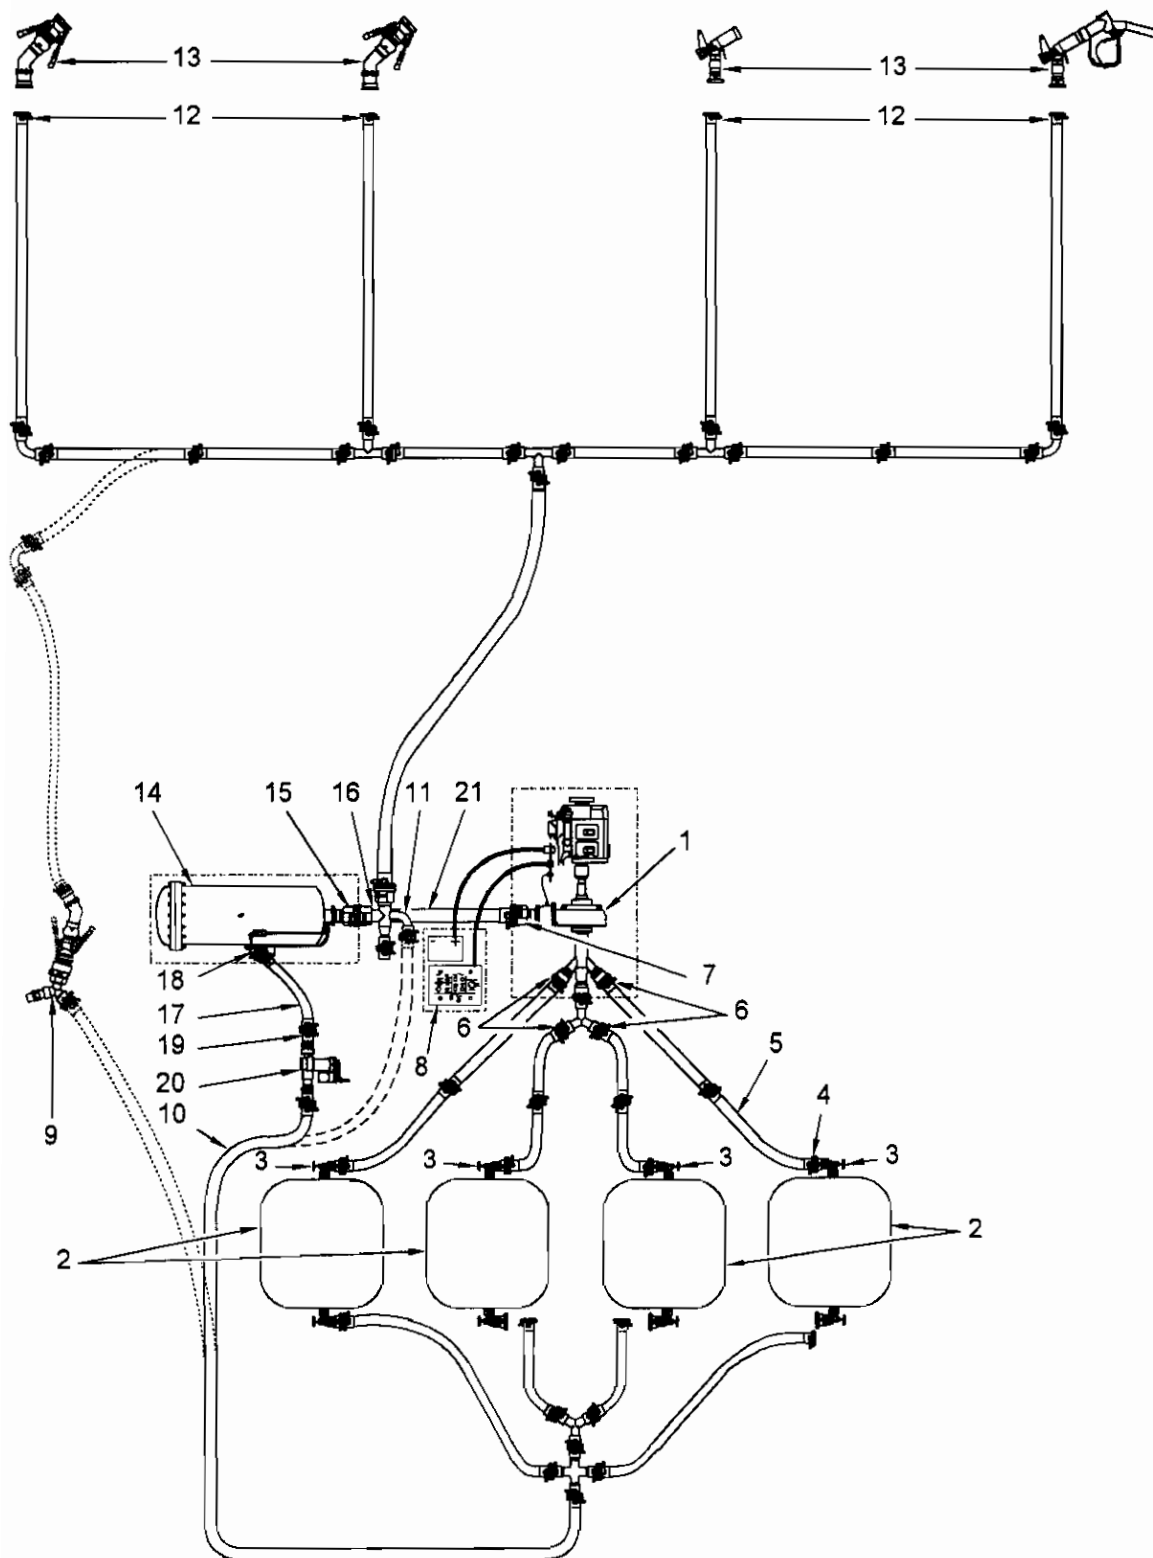

Figure 2-25. Defueling Liquid Fuel Filter-Separator
2.7 DEFUELING PROCEDURE. (Refer to figure 2-25.)